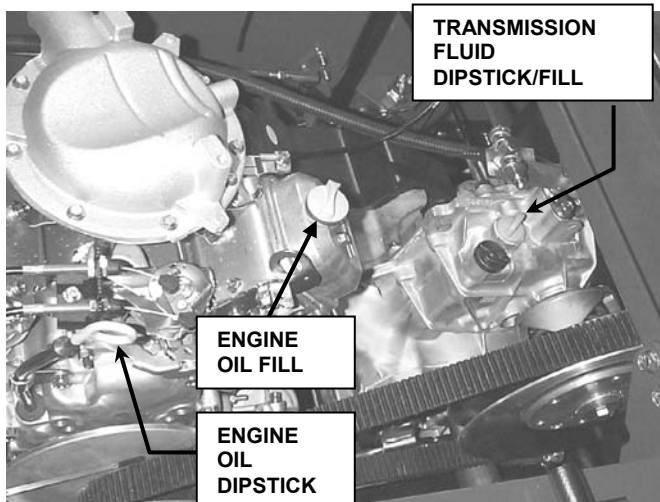

FIGURE 2.1
**2.1.5. Check Engine oil and Transmission fluid.** Raise empty cargo bed and carefully secure with prop rod. Add oil as needed to bring engine to FULL mark on dipstick. See Figure 2.1. Refer to Engine Owner's manual for engine oil specifications. Add fluid as needed to bring transmission to FULL mark on dipstick. See Figure 2.1. Use MOBILFLUID 424 or equivalent. IMPORTANT! Do Not overfill. Always fully thread dip stick when checking transmission fluid levels.